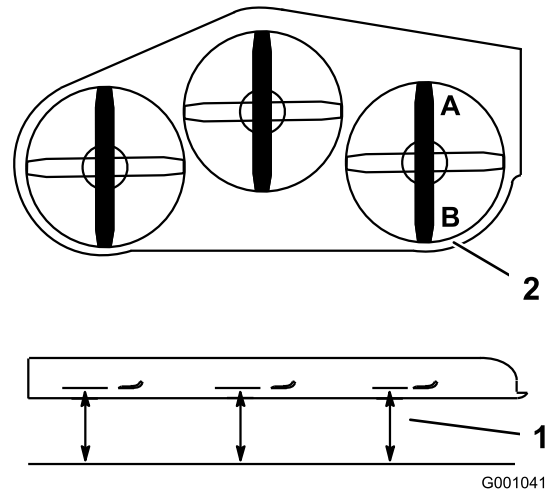

Figure 84
2. Position one blade front-to-rear. Measure at **A** and **B** locations from a level surface to the cutting edge of the blade tips (Figure 84).